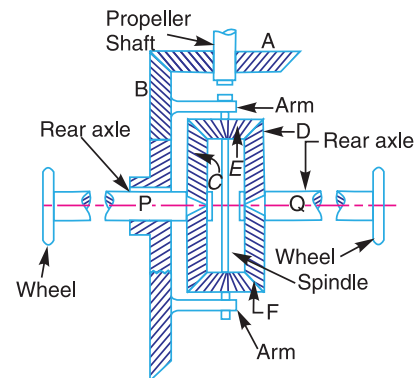

Fig. 13.21. Differential gear of an automobile.
2. Differential gear of an automobile. The differential gear used in the rear drive of an automobile is shown in Fig. 13.21. Its function is
As long as the automobile is running on a straight path, the rear wheels are driven directly by the engine and speed of both the wheels is same. But when the automobile is taking a turn, the outer wheel will run faster than the * inner wheel because at that time the outer rear wheel has to cover more distance than the inner rear wheel. This is achieved by epicyclic gear train with bevel gears as shown in Fig. 13.21.